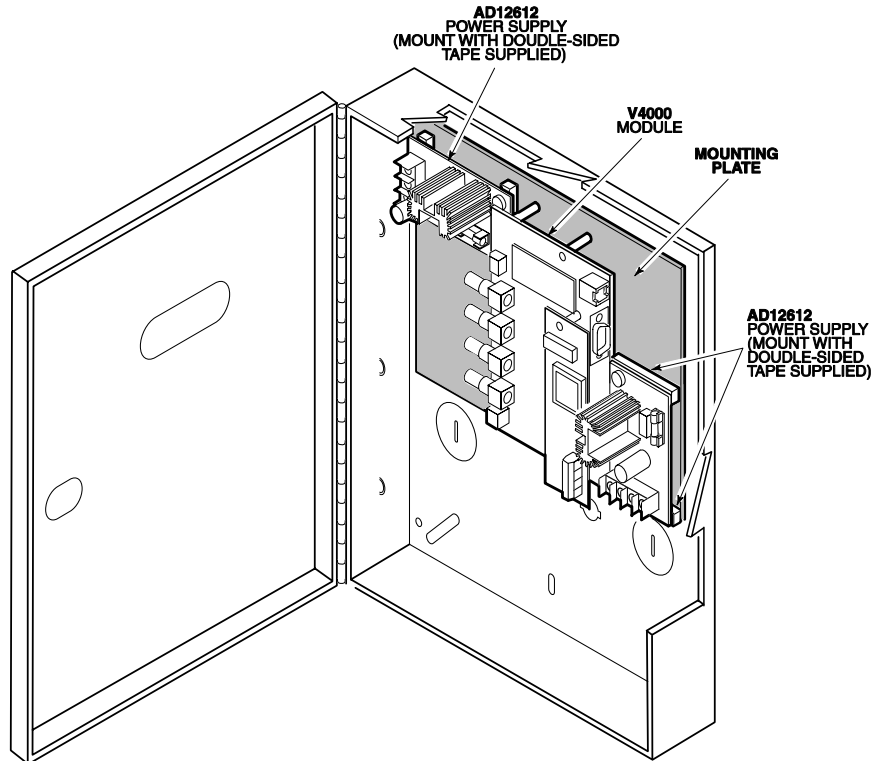

Figure 1: Mounting the V4000 and Power Supplies
1. Mount the V4000 unit (on its mounting plate) to the control panel cabinet as shown. Screw the bottom of the mounting plate into the enclosure (using the lower mounting holes) using the screws provided (see Figure 1).